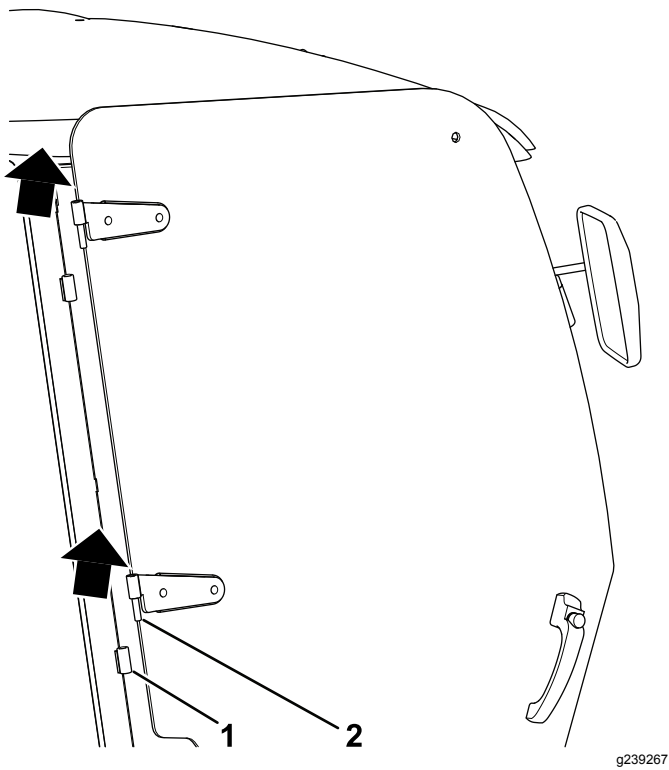

Figure 14
2. Lift each door so that the pins come out of the brackets on the cab frame (Figure 14).